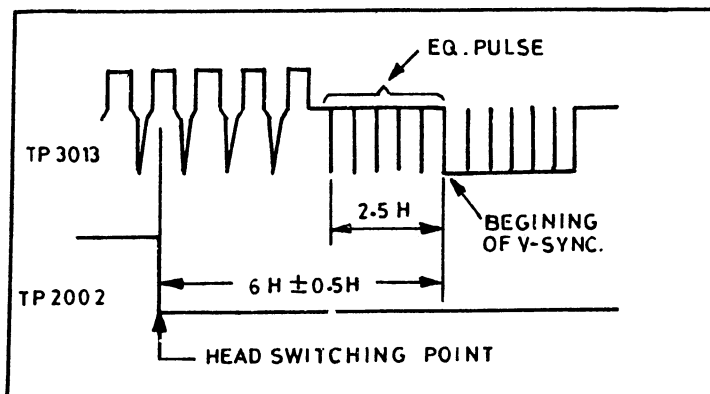

Fig. 11.9
5. Now adjust Rec. shift control R 2010 on the servo section so that the head switching position is 6 ± 0.5 H before the beginning of the vertical sync as shown in fig. 11.9.